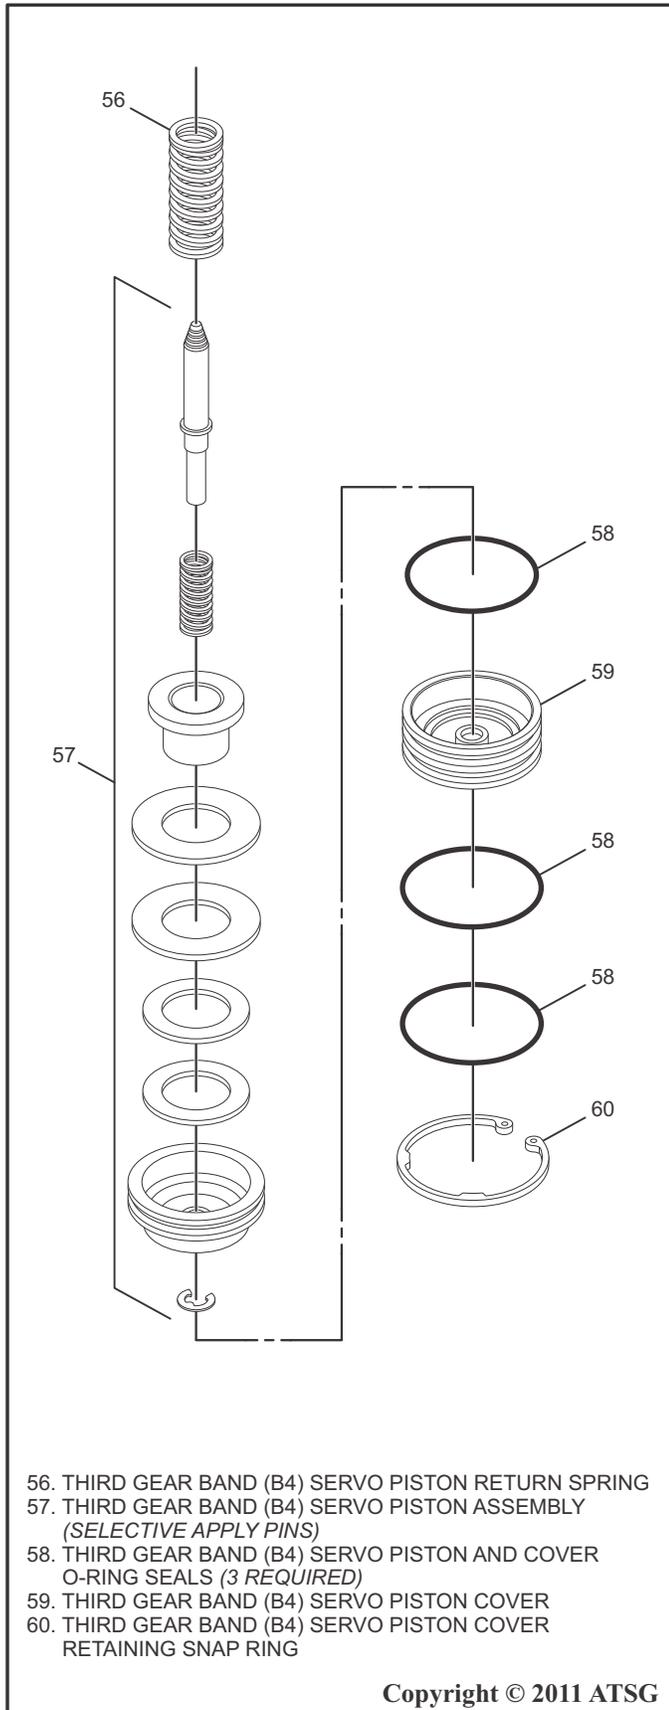

Figure 147
1. Disassemble the Third Gear Band (B4) Servo Piston Assembly using the diagram in Figure 147 as a guide.
4. Reassemble the Third Gear Band (B4) Servo Piston Assembly using the diagram in Figure 147 as a guide.
5. Install a new O-ring seal onto the servo piston and two new O-ring seals onto the piston cover as shown in Figure 147. Coat the three O-ring seals with a small amount of Trans-Jel®.